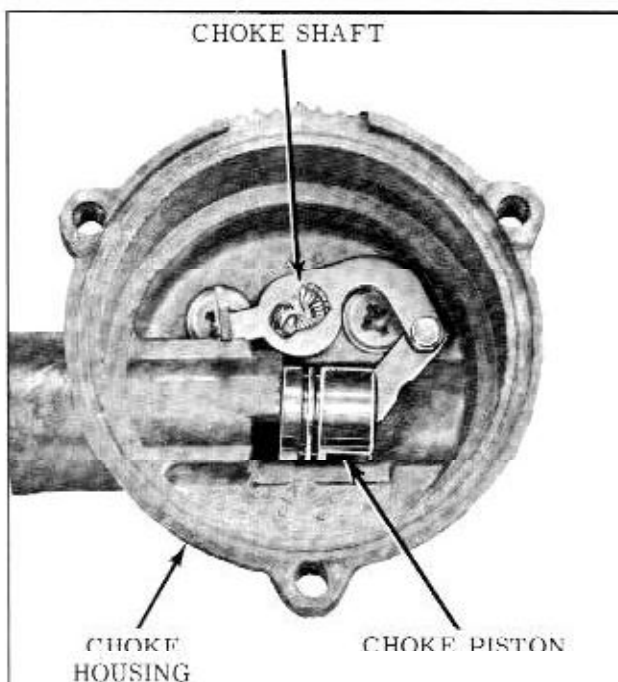

Fig. 8-74 Choke Piston Removal
15. Rotate choke shaft and piston assembly counterclockwise to free choke piston from the choke housing, then remove choke piston and shaft from air horn. (Fig. 8-74) Choke piston